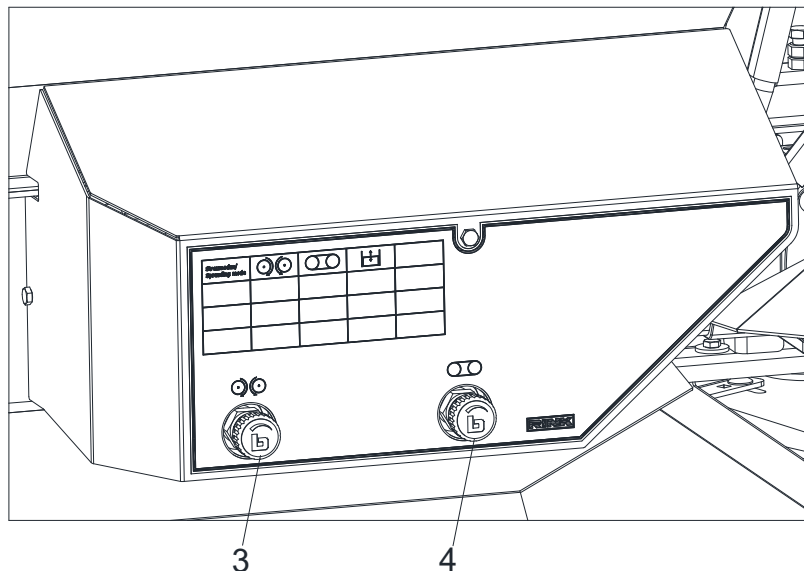

Fig. 31 Analog Flow Control (evo)
3. If necessary, set the disc speed using the rotary control for disc speed (Fig. 31/3).
5. If necessary, set the transport speed using the rotary control for conveyor speed (Fig. 31/4).